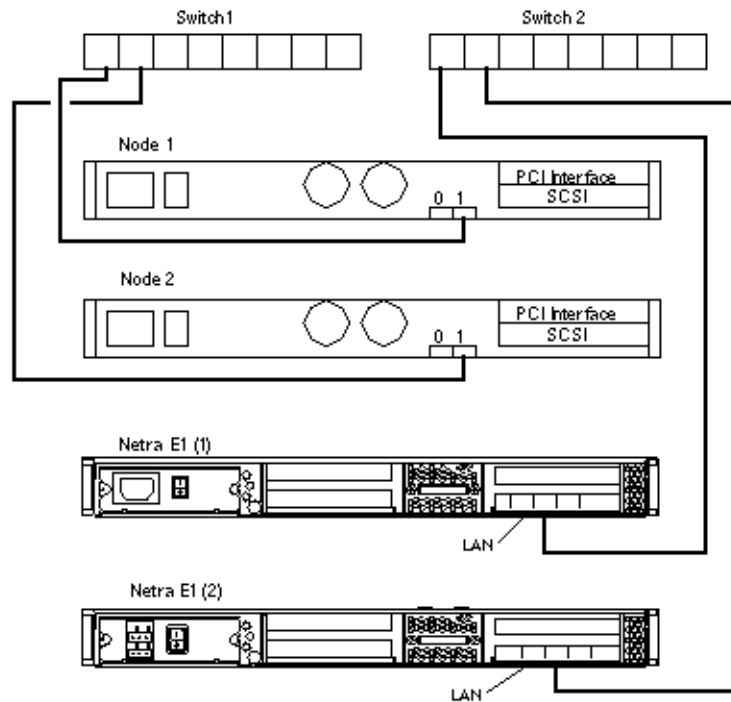

FIGURE 1-3 Cabling a Mirrored Pair Configuration With Single SCSI Port Hosts and Netra E1 PCI Expanders
2. Connect the Ethernet cables between the host storage arrays, Netra E1 PCI expanders, and Ethernet switches, as shown in Figure 1-3.